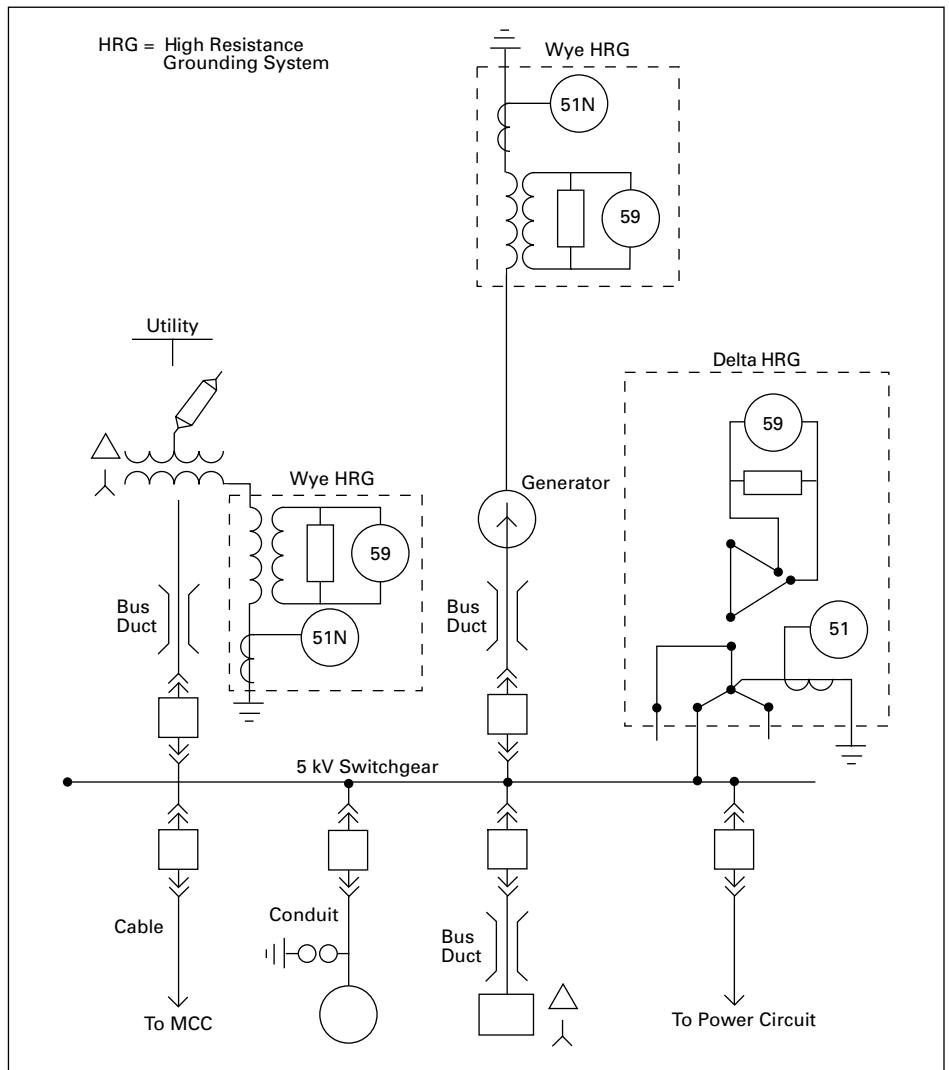

Figure 36.1-1. HRG—High Resistance Grounding System
**Note:** Per 1999 NEC® 250.36(4), line-to-neutral loads may not be connected to a system that the neutral is resistance-grounded. Also, if the system has two switchable sources not permanently connected to the bus, two wye-type grounding systems are required as shown in **Figure 36.1-1**.